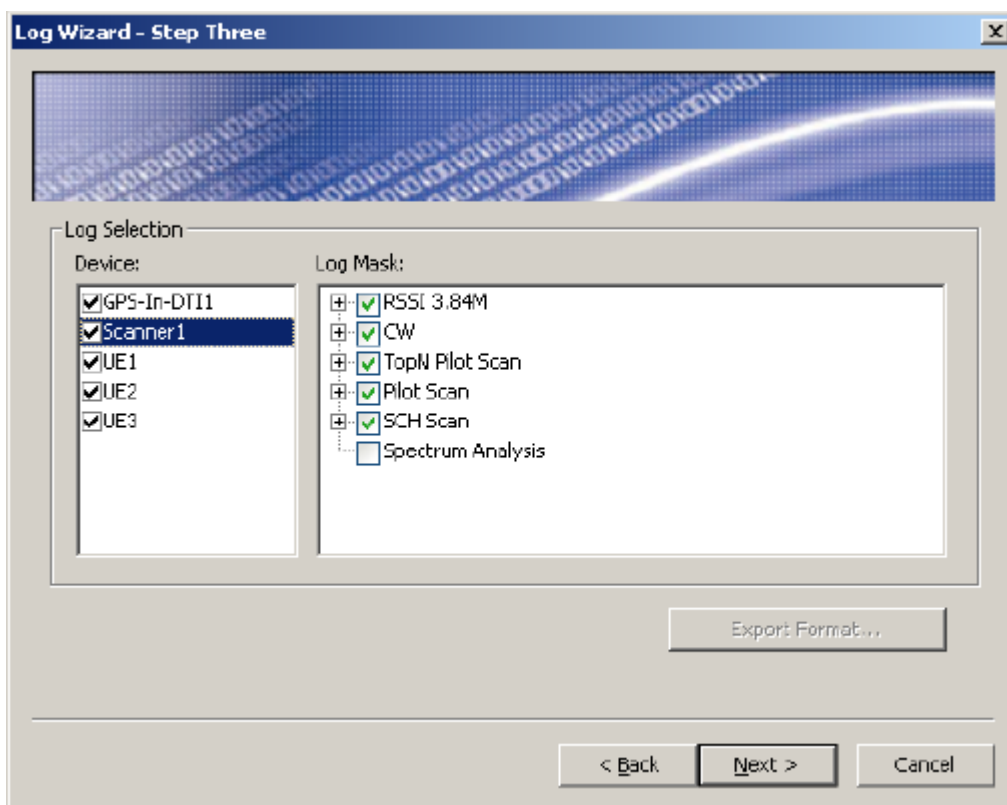

Figure 11-4 Selecting the log
- 4) Select the device type in the **Device** field in the **Log Selection** area, as shown in Figure 11-4.